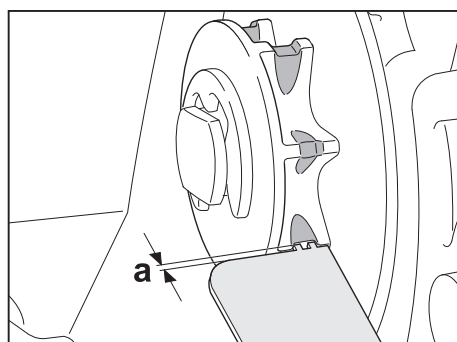

Fig. 14
- Measure the depth of the pinion groove with a depth gauge (see fig. 14).